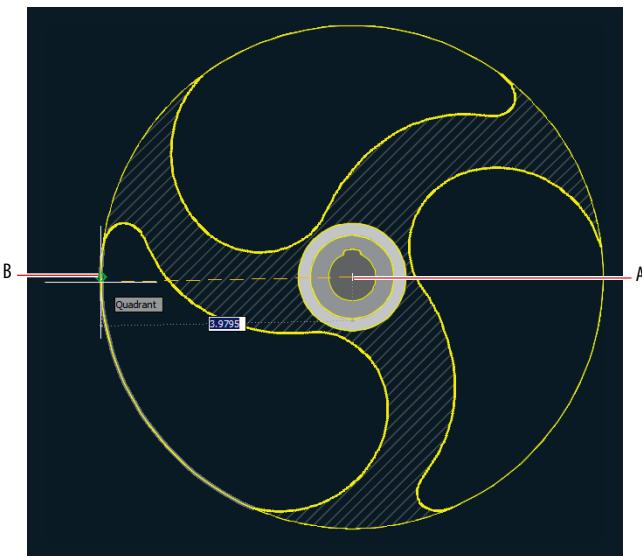

FIGURE 8.8 Drawing a circle
2. Shift+right-click, and choose Node from the context menu. Click point A, shown in Figure 8.8, as the center point. Type **QUA** (for Quadrant), and press Enter. Click point B, also shown in Figure 8.8, to set the inner circle's radius. The CIRCLE command ends.